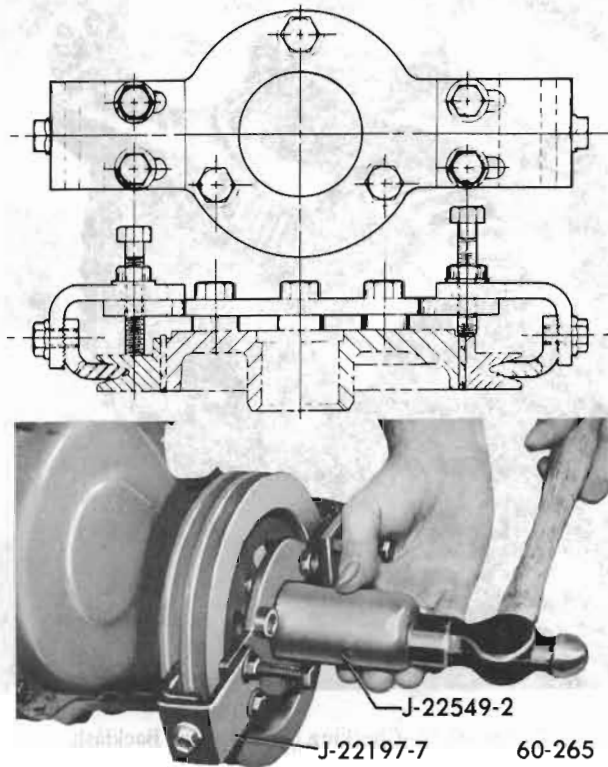

Figure 60-31 - Installing Torsional Damper
b. Attach damper Installer Tool J-22197 to damper. Tighten fingers of tool to prevent weight from moving. See Figure 60-31.